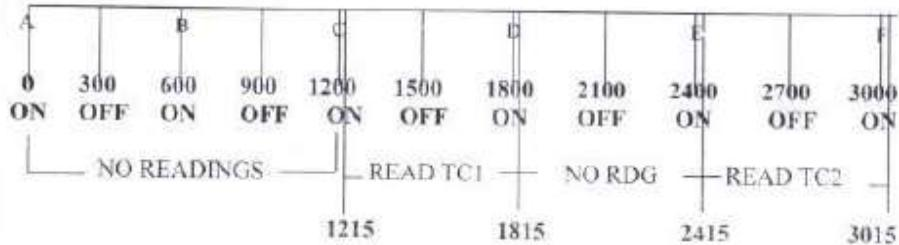

Fig. 1: Schematic showing how readings are to be taken. Numbers denote time in seconds.
4. No readings are taken for the first two cycles (till 1200s.) Start taking readings from 1215 s. and note down the reading every 30 seconds; for TC1. Fig. 1 shows the schematic on how to take the readings.